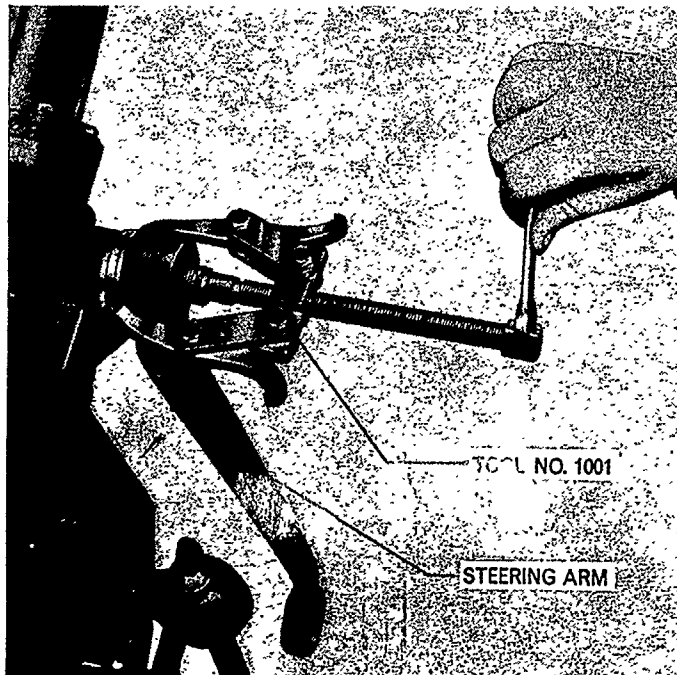

Figure 2
1. Remove the steering arm retaining nuts and lockwashers, and remove the steering arms. If the arm is tight on the rocker shaft, use Tool No. T.3054 or Tool No. 1001, Figure 2.